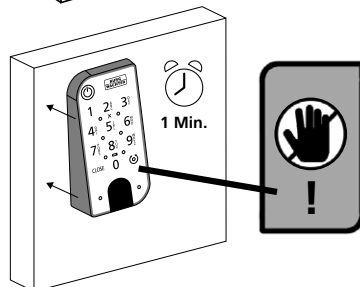

Fig. 116
- 4 Press the keypad against the wall for approx. one minute (Fig. 116).